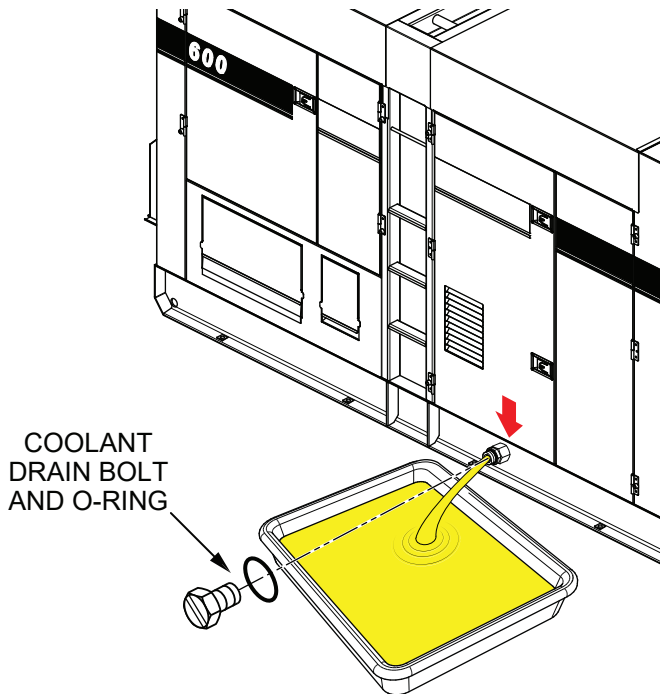

Figure 71. Draining The Engine Coolant
2. Open the cabinet door and remove the **coolant drain bolt** and **O-ring** (Figure 71), then allow the coolant to drain into a suitable container.